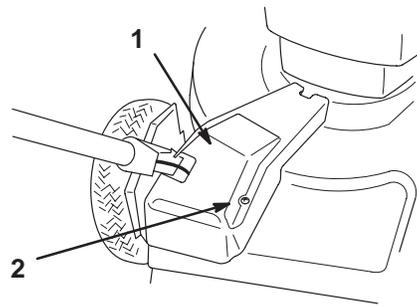

Figure 28
2. Remove the bolts that secure the belt cover to the lawn mower housing (Fig. 28).